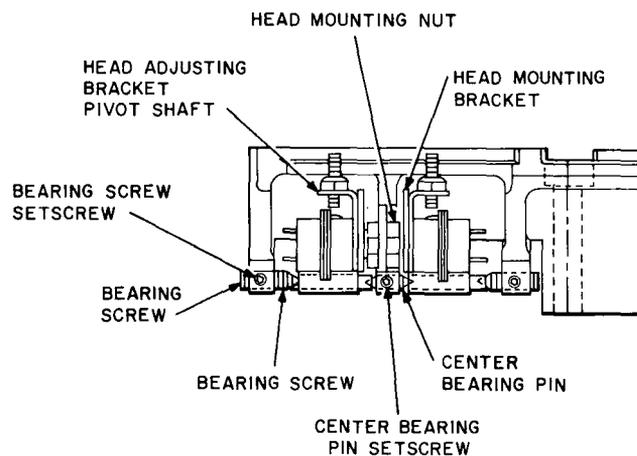

Fig. 17 — KS-12068 L4, L5, and L6 Recorder-Reproducers — Record and Erase Head Bearings and Associated Parts
3.22 L4, L5, and L6 Machines: To replace any of these parts (Fig. 17), proceed as follows.